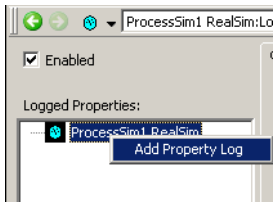

Figure 132. Adding a Property Log
1. Click the **Add Property** button, or right-click on the object name and choose **Add Property Log** from the context menu, Figure 132.